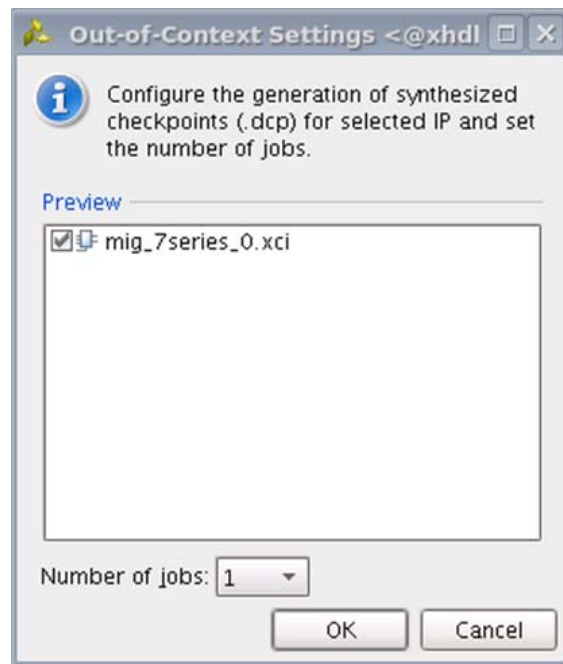

Figure 5-20: **Out-of-Context Settings Window**
2. Click **Out-of-Context Settings** to configure generation of synthesized checkpoints. To enable the **Out-of-Context** flow, enable the check box. To disable the **Out-of-Context** flow, disable the check box. The default option is **Enable** as shown in Figure 5-20.